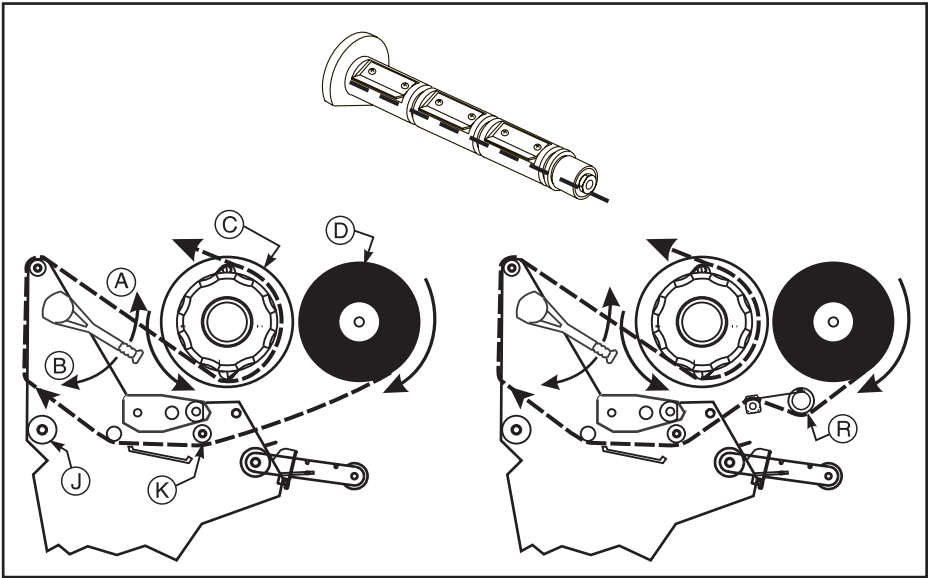

Figure 8
1. Align the segments of the Ribbon Supply Spindle (Figure 8).
2. Place the Ribbon Roll on the Ribbon Supply Spindle (Figure 8-D).
4. Open (A) the printhead and thread the leader and attached ribbon through the print mechanism, under the Upper Roller (Figure 8-K), and past the Platen (Figure 8-J). **Note:** For the 170XiIII and 220XiIII, thread the leader first through the Dancer Roller Assembly (Figure 8-R).
6. Place the ribbon (with leader, if used) around the Ribbon Take-Up Spindle (Figure 8-C) and wind counterclockwise for several turns.
7. Close (Figure 8-B) the printhead.